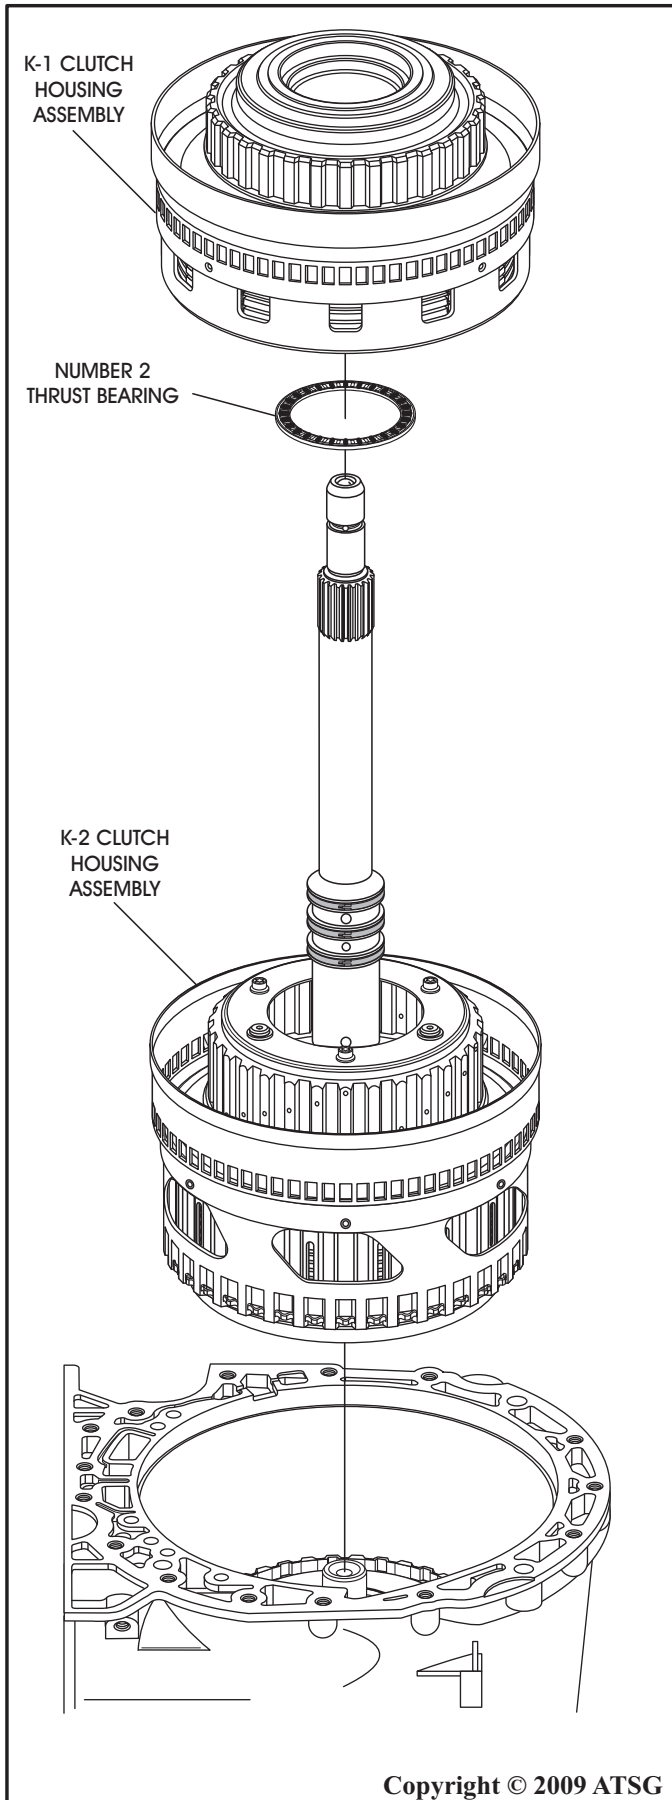

Figure 51
29. Remove the K-1 and K-2 clutch housings from the case, as shown in Figure 51, and set both aside for component rebuild.